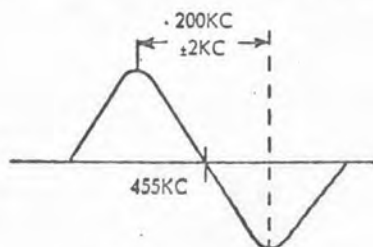

Figure 5-9
- Using the calibrated 455-kc marker as a reference, tune L609 and L610 to achieve a response curve as shown in figure 5-9. The final curve should have equal amplitude above and below the reference line, and should be symmetrical.